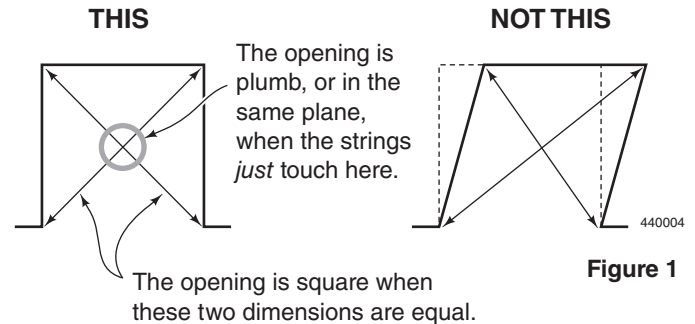
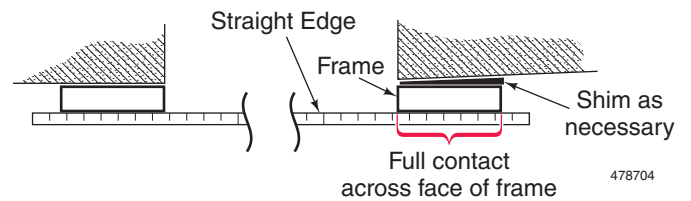

Figure 1
Figure 7
2. Measure diagonally to determine that the door opening is square. To verify that the opening and wall are plumb, stretch two strings diagonally from corner to corner. The strings should *just touch* at the center. To correct for any out-of-square or out-of-plumb situation, shim the Side Frames and Top *at installation*. Any fasteners on *existing* jambs or headers must be countersunk flush or below the surface. See *Figure 1*.
6. Measure the frame opening diagonally to square and level the top. Adjust one side of the frame up or down to make the top of the frame level. Tighten the clamps. See *Figures 1 and 6*.
7. With a string plumb line and a long straight edge, again verify the frame for plumb and common plane. See *Figure 1*. The straight edge, when laid across the frame, must be in flat contact with the faces of the frame at various angles. If necessary, loosen the clamps and add shims between the frame and the wall. Proper Door seal will be difficult to achieve if the frame is not plumb. See *Figure 7*.